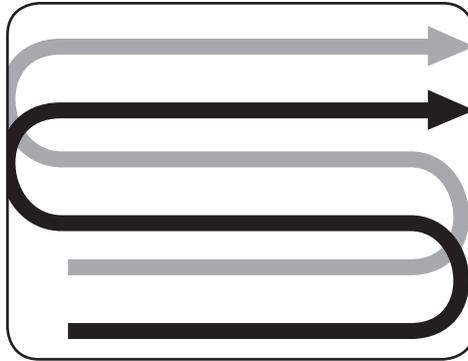

Figure 4-7
- When preparing a seedbed, go over the same path twice in the first row, then overlap one-half the tiller width on the rest of the passes. See Figure 4-7.